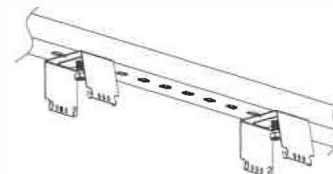

Figure5
1. Securely mount the bracket on the rail or ceiling (Figure 5) ;